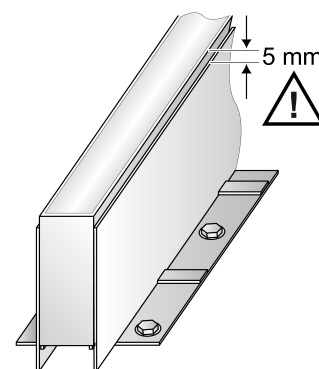

Figure 6: Installed luminaire
- i** The installed luminaire exceeds the upper edge of the frame by 5 mm (Figure 6). The upper edge of the floor after finishing must therefore also exceed the frame by 5 mm.